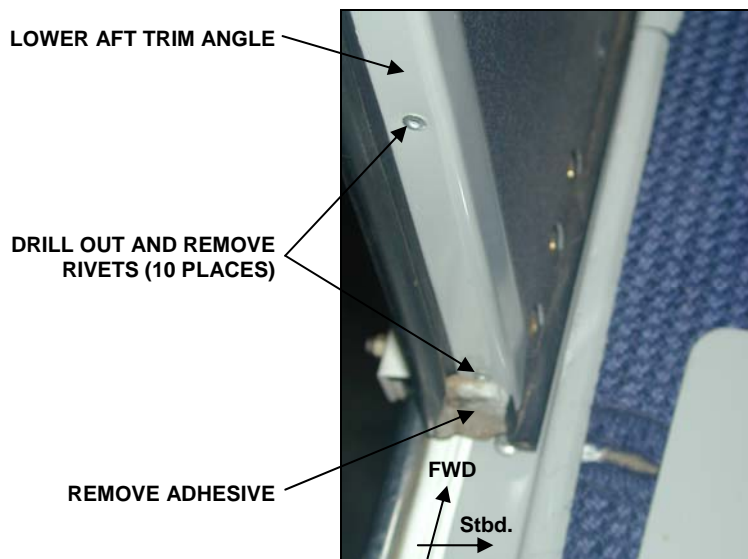

Figure 6: Rear cabin door (prior to upgrading).
3. Remove the adhesive plugs at the bottom and top aft corners of the door (refer to Figure 6).
5. Drill out and remove the five pop rivets securing the upper aft trim angle and remove the trim angle. Drill out and remove the five pop rivets securing the lower aft trim angle and remove the trim angle. Figure 6 shows the lower two rivets securing the lower trim angle.